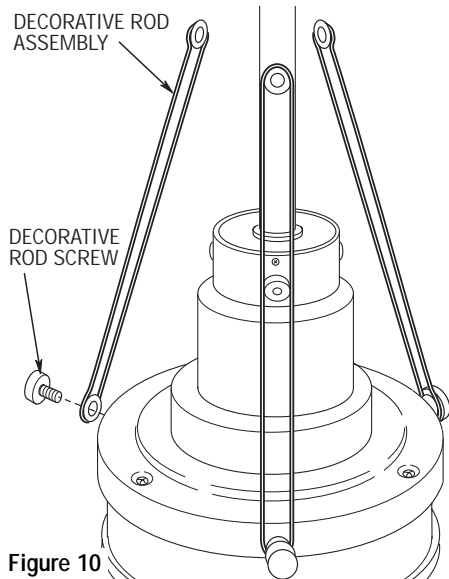

Figure 10
- 15. Using the decorative rod screws (supplied), attach the three decorative rod assemblies to the motor housing (Figure 10). The decorative rods must be oriented so that they lean in towards the downrod. Do not tighten the rod screws at this time.